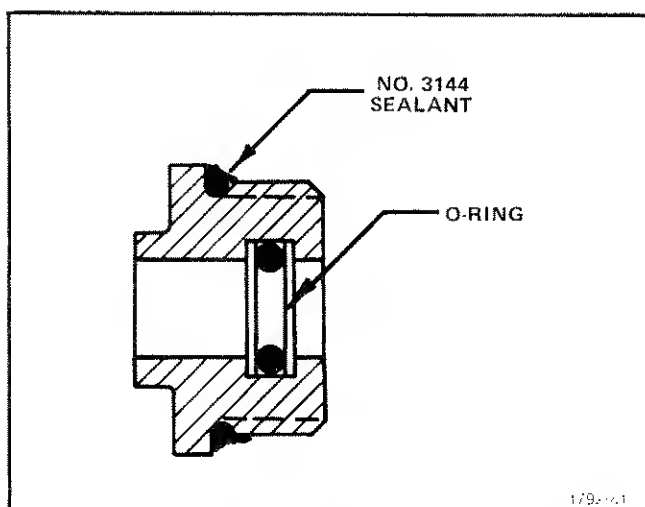

Fig. 5-28. Lubrication of the O-rings and sealing for the cam-switches.
24. Install cam switch inserts (see Fig. 5-28)
1. Apply G-661 lubricant to O-ring and install as shown in Fig. 5-28.